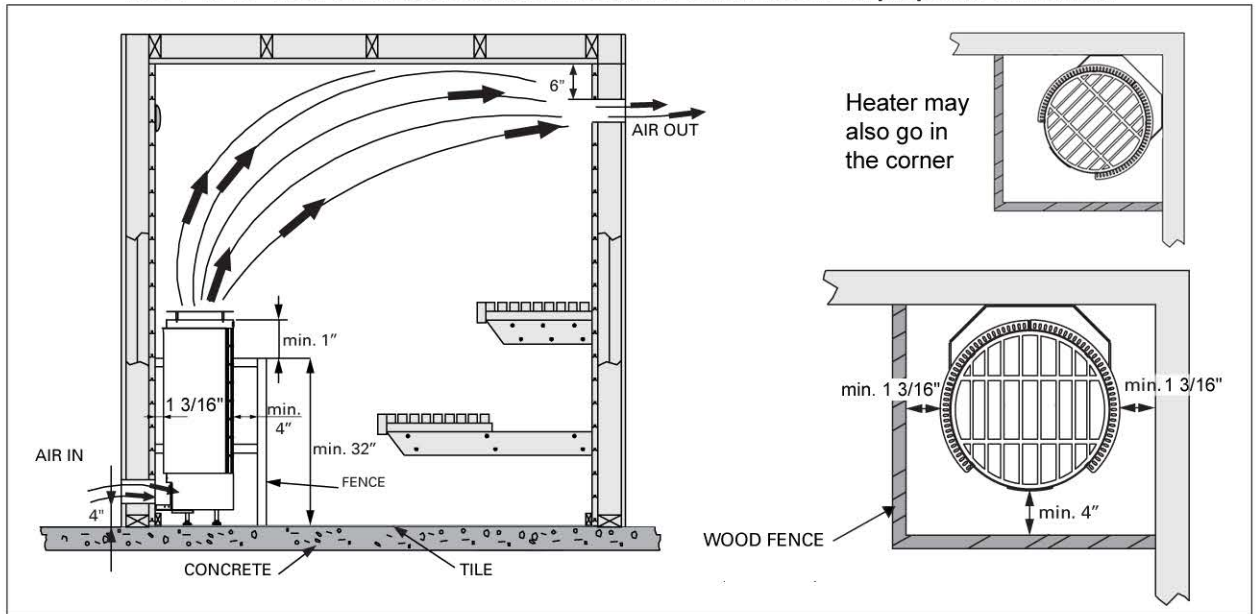

Figure 3. Ventilation of the sauna room and min. clearances from wall and fence
The minimum safety distances are described in figure 3 and 5.
It is necessary for safety and should be constructed of softwood to match sauna interior. See figures 3 and 5 for clearances from sauna heater. Fence should be attached to wall and should not be placed higher than top of heater below rock line.
1. Remove heater from carton and place in proper location in sauna room. Observe proper clearances as per figures 3 and 5. After final hookup, electrical contractor should secure heater to floor with at least two screws or bolts.